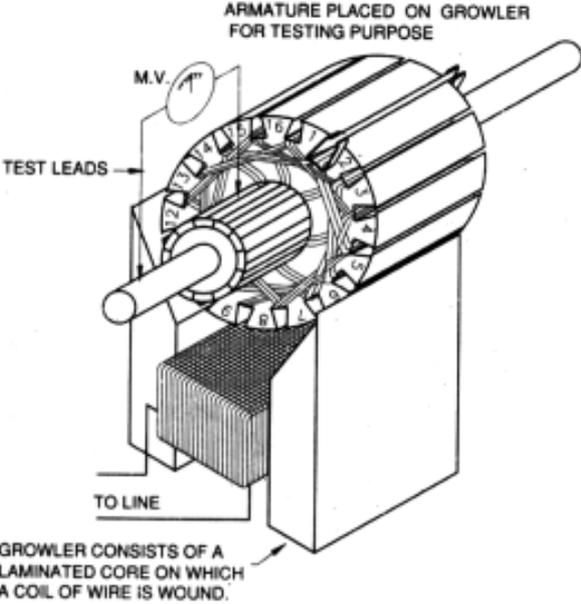

Fig. 6.18
**Growler test for grounded coil :** The armature to be tested is placed on the growler and then the growler is switched 'ON'. Place one lead of an AC milli-voltmeter on the to commutator bar the other meter lead on the shaft, as shown in Fig. 6.18.